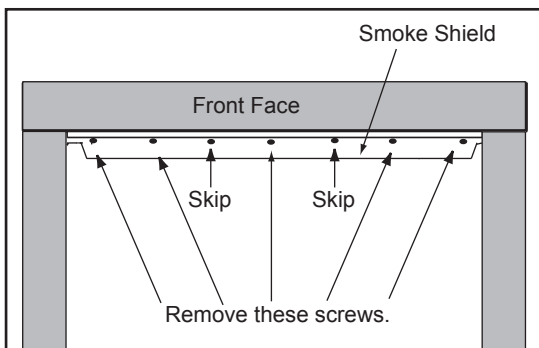

Figure 3.8 Removing Smoke Shield
- Remove smoke shield by removing five screws. See Figure 3.8. Smoke shield is located at top of fireplace front.